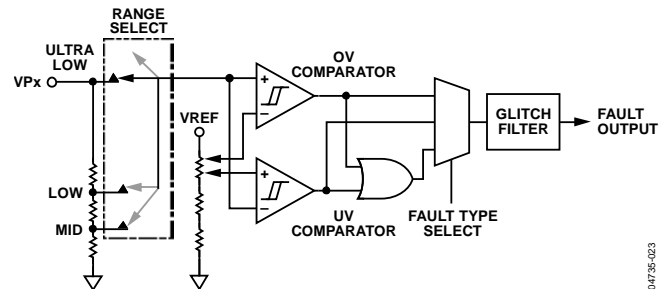

Figure 22. Supply Fault Detector Block
The undervoltage (UV) and overvoltage (OV) comparators shown in Figure 22 are always monitoring VPx. To avoid chatter (multiple transitions when the input is very close to the set threshold level), these comparators have digitally programmable hysteresis. The hysteresis can be programmed up to the values shown in Table 6.